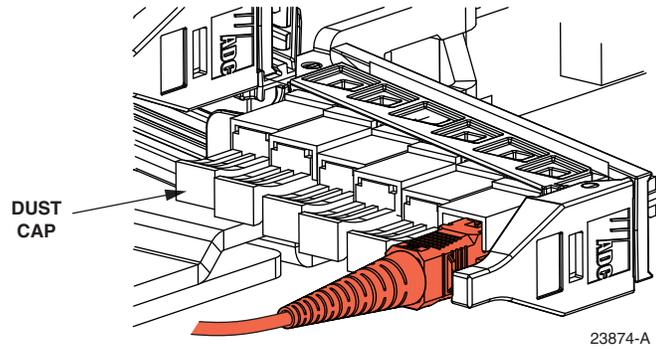

Figure 15. Connecting the Patch Cord
2. Remove the dust cap from the desired adapter and connect the patch cord as shown in Figure 15.